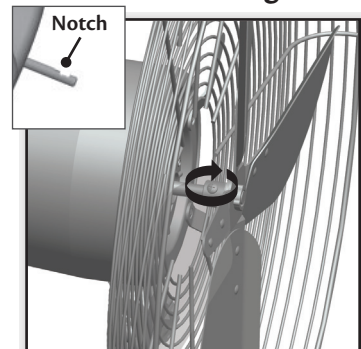

Figure 15
5. Tighten the screw on the back of the blade assembly to secure it to the motor. Make sure that the end of the screw is positioned within the notch on the shaft. Figure 15.